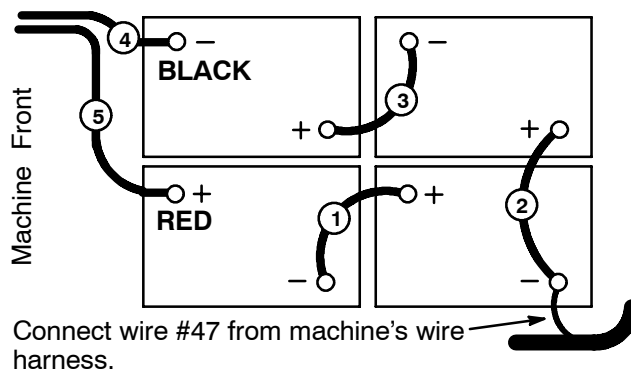

FIG. 2
3. Carefully install the batteries into the battery compartment tray and arrange the battery posts as shown (Figure 2).
5. Connect the cables to the battery posts in numerical order as labeled (Figure 2), RED TO POSITIVE & BLACK TO NEGATIVE.